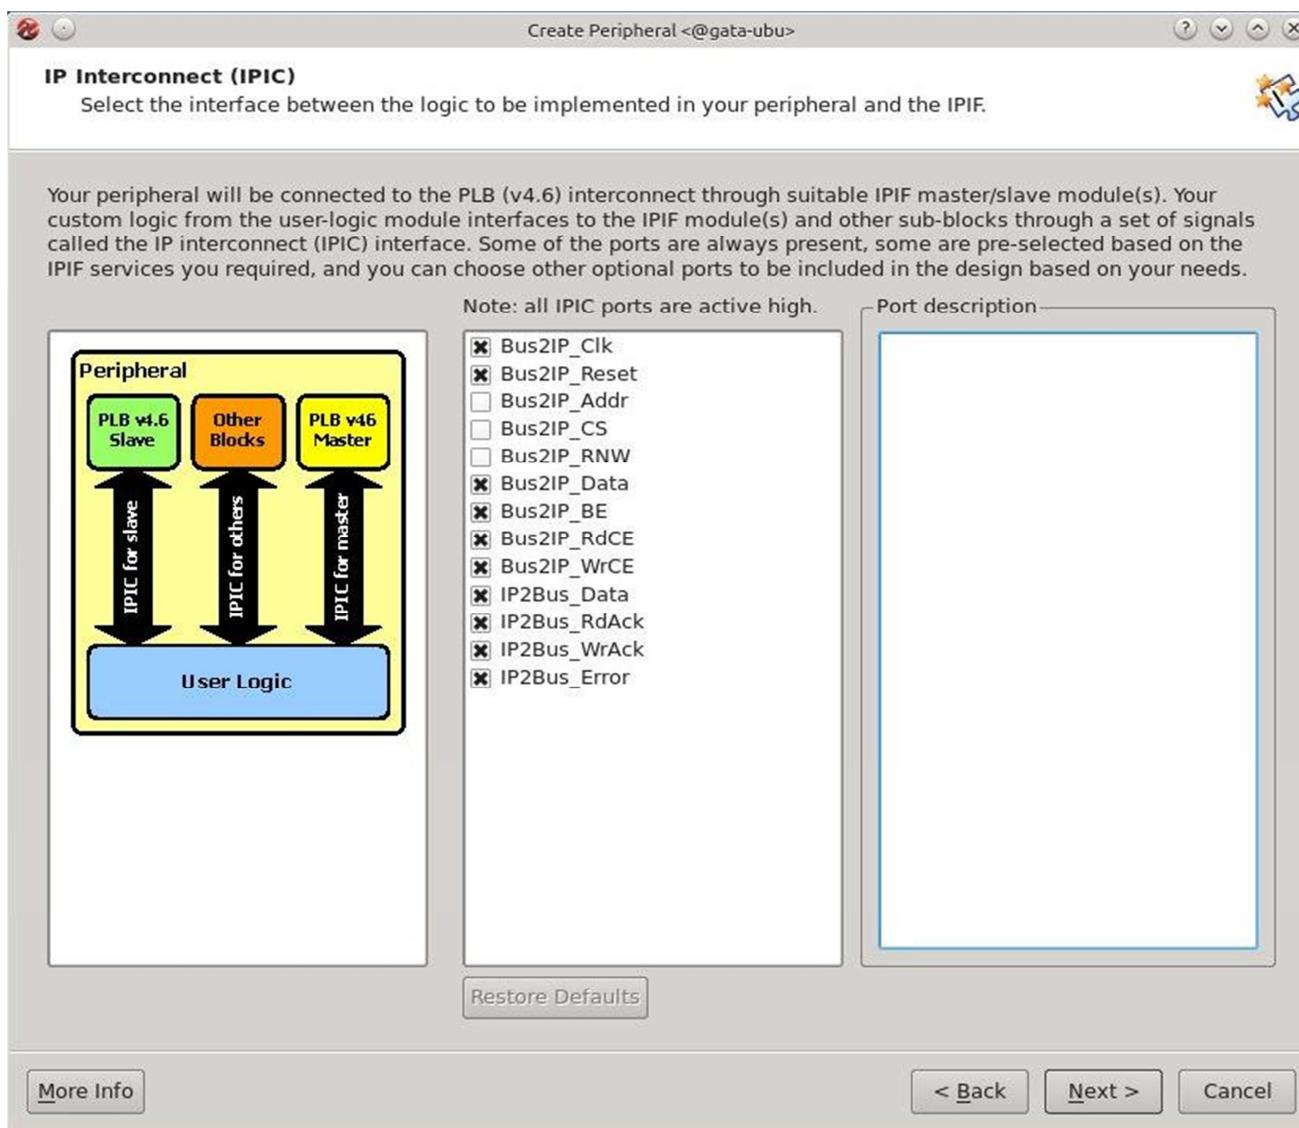

Figure 10: Create and Import Peripheral Wizard (Step 9)
**Step 9:** After setting the core configuration and internal components, the wizard window shown in **Figure 10** allows you to change the interface between your new added logic (IP) and the bus interface. The wizard will create the bus interface for you and then create a **usr\_logic** module that contains all the logic selected by you in the wizard. This screen allows you to change the signals between the bus interface and your user logic. Press “**Next**” to continue.